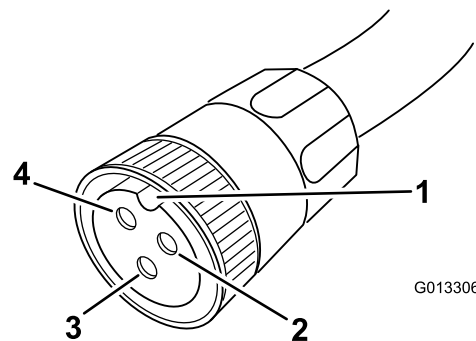

Figure 12
2. Hold the cable so that the keyway is in the 12 o'clock position (Figure 12).